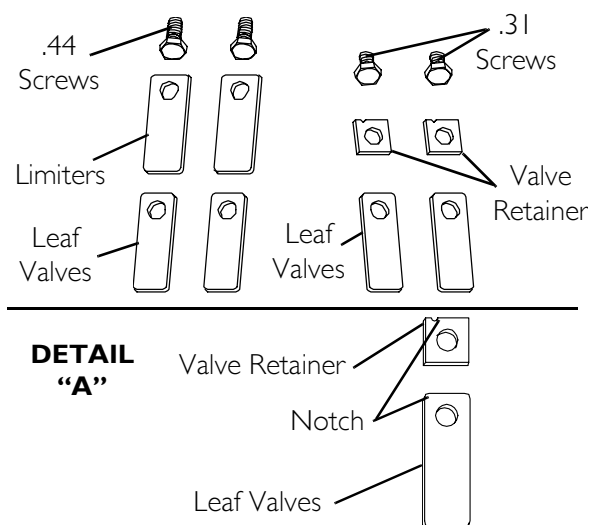
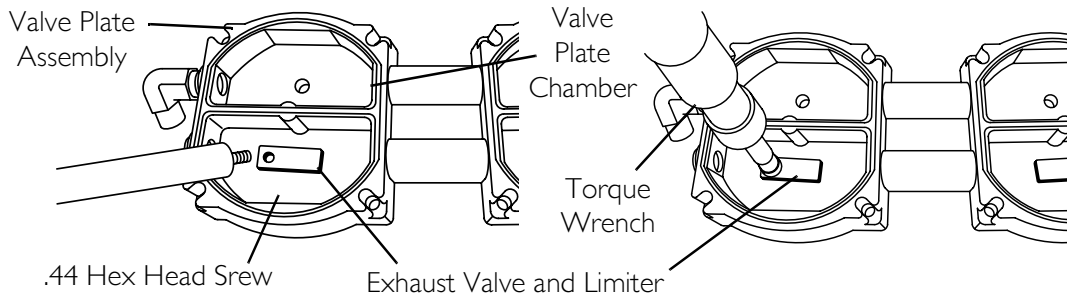

FIGURE 7.15 New Valves, Limiters, Screws
FIGURE 7.17 Installing New Exhaust Valves And Limiters
NOTE: For this procedure, refer to FIGURE 7.15, FIGURE 7.16 on page 48, and FIGURE 7.17 on page 49.
NOTE: Notice that the leaf valves and the valve retainers have a notch that should be oriented in the top left corner when installed (See Detail "A" in FIGURE 7.15).
4. Turn the valve plate assembly over and install the new exhaust valves with limiters in the valve plate assembly (FIGURE 7.17).